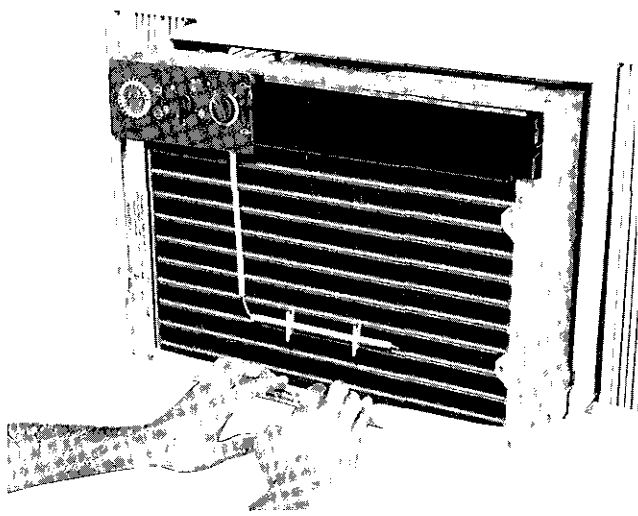

Fig 6 — Sliding Chassis Out of Casing
- 5 **Chassis** — The International Series models have a slide-out chassis. Servicing the chassis is possible without having to remove unit casing from window. See Fig 6. Use the offset in the basepan as a finger-grip handle to slide chassis out of casing.